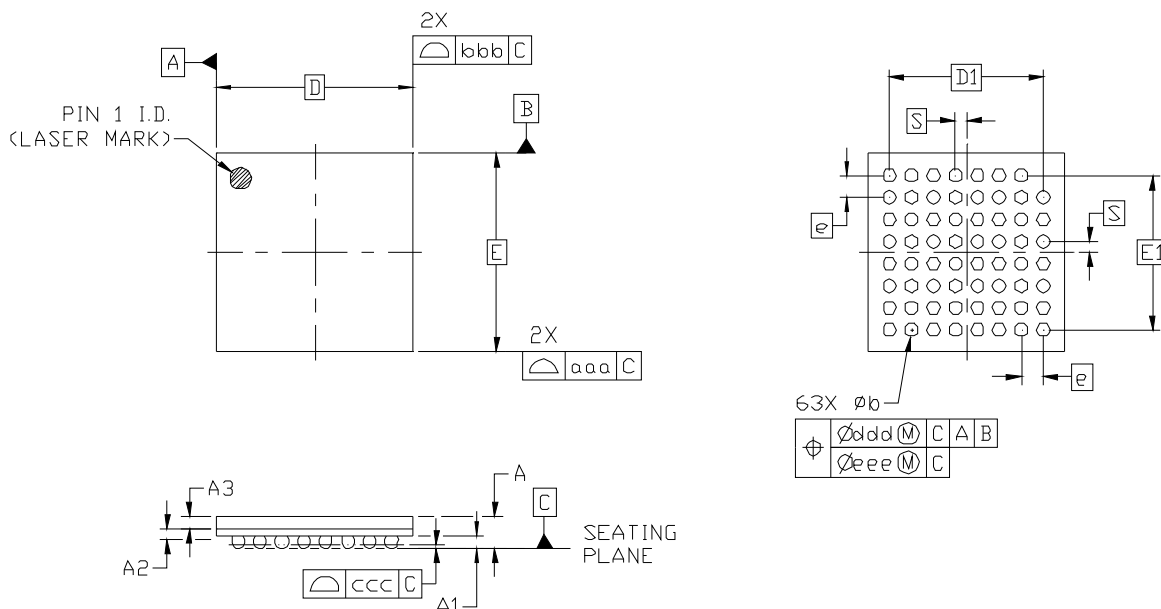

Figure 12. 63-Ball Plastic Ball Grid Array (PBGA)
Figure 12 illustrates the package details for the Si5321. Table 11 lists the values for the dimensions shown in the illustration.
- Updated Figure 12, “63-Ball Plastic Ball Grid Array (PBGA),” on page 31.